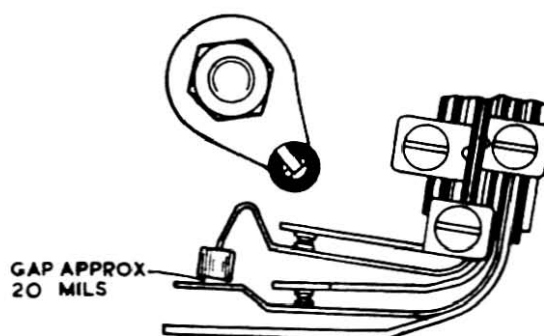

FIG. 10
- .2 Springs 1 and 2 should be adjusted to break first, to ensure that clicks are not received in the subscriber's receiver when the dial is pulled off-normal. For this adjustment to be effective, there should be a gap of approximately 20 mils between the buffer of the first lever spring and the face of the second lever spring when the dial is off-normal (see Fig 10).